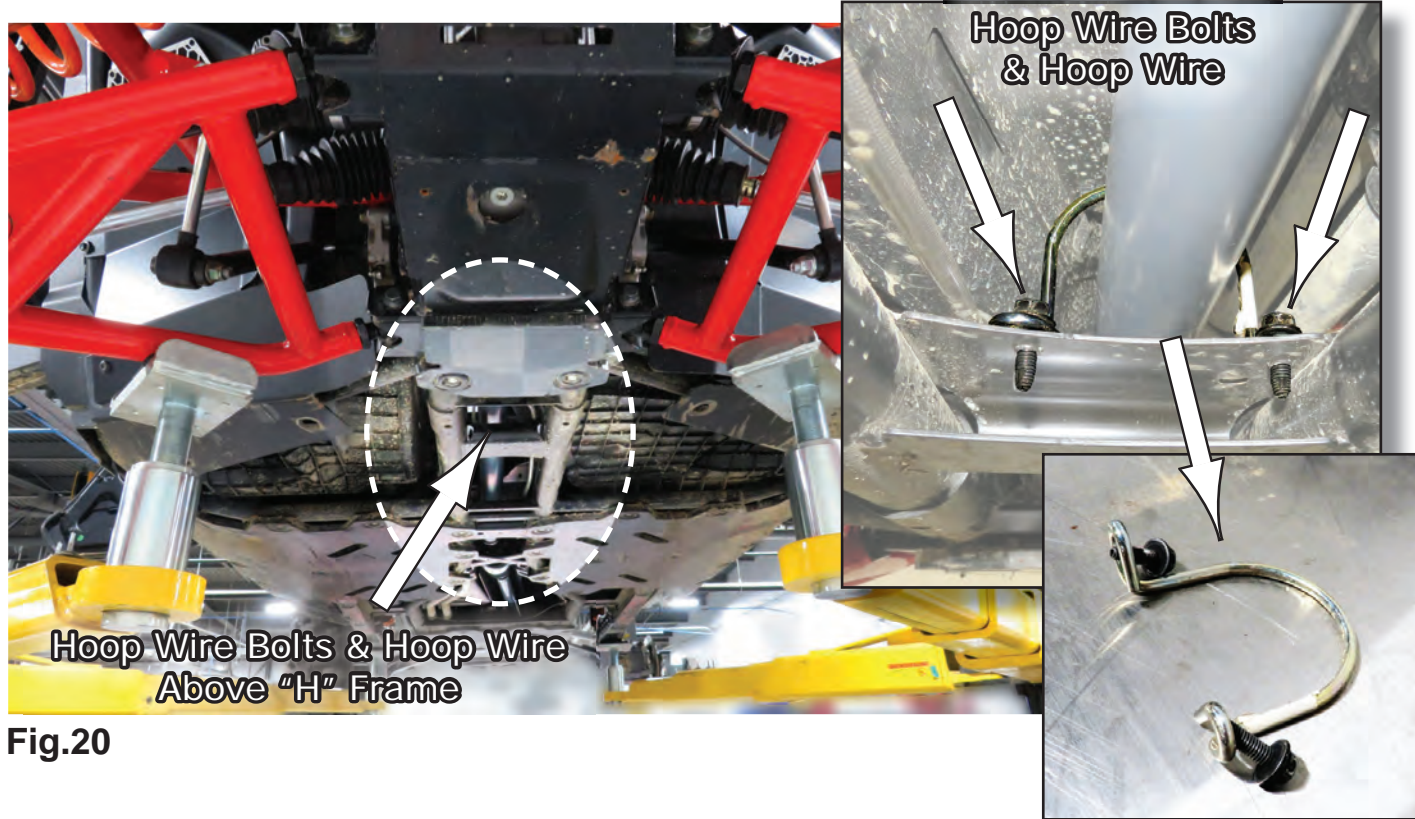

Fig.20
20. Then install the **Hoop Wire** and bolts as shown in **Fig.20**. This is located directly above the center “H” frame in the center highlighted. For this **4-Seater Prop Shaft**, you will **NOT Need** the **Hoop Relocation Bracket** as used for the 2-seater versions. **Only the Hoop Wire and two screws** as shown below in **Fig.20**.